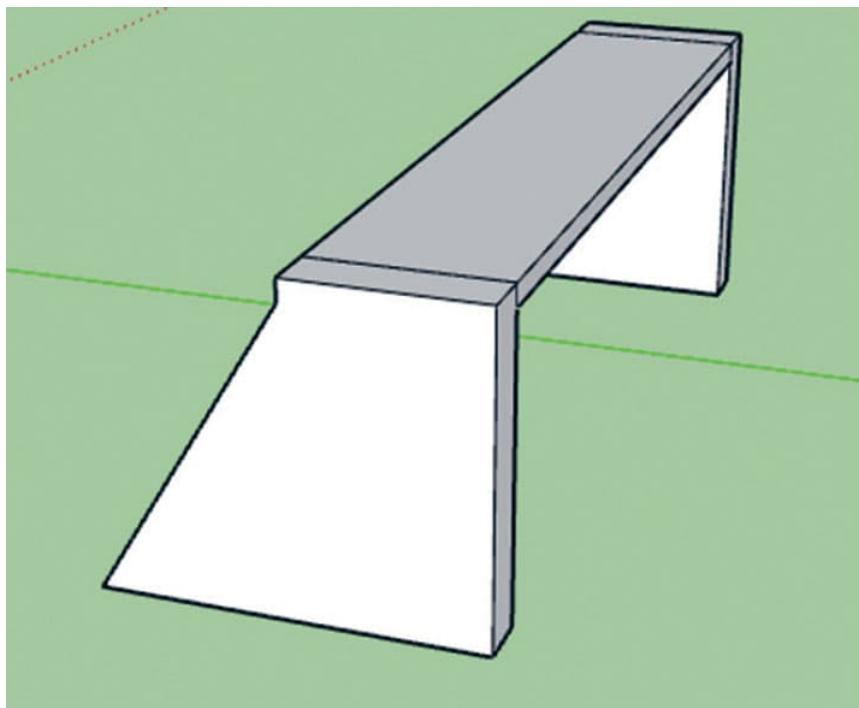

FIG. 4: Design the wing.
4. Use the **Rectangle** tool to draw a rectangular wing that connects the top edges of the two brackets. Extrude out the rectangle to about 2 mm thickness (fig. 4).